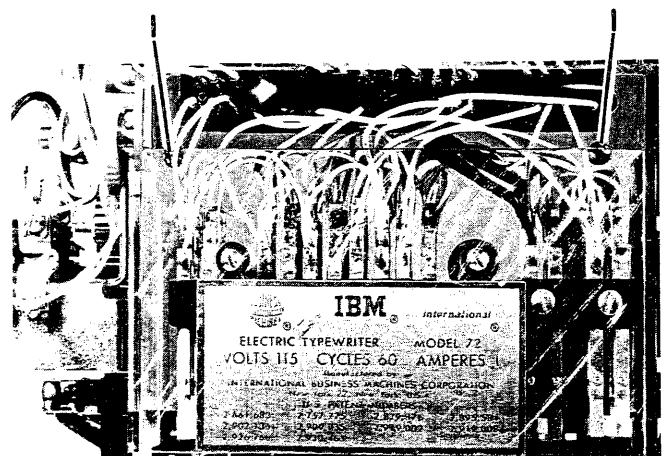

FIGURE 27. Differential Plate Removal
- * 3. Remove the two screws (#1, Figure 27) that hold the contact plate to the frame. Remove the contact assembly, holding it to the front with a rubber band.